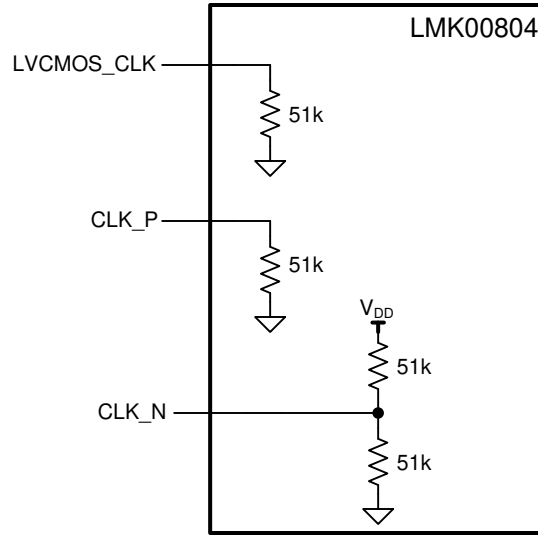

图 12. Clock Input Components
- **CLK_P/CLK_N Inputs:** See 图 12 for the internal connections. When using a single-ended input, take note of the internal pullup and pulldown to make sure the unused input is properly biased. To interface a single-ended input to the CLK_P/CLK_N input, the configuration shown in 图 14 is recommended.
- **LVC MOS_CLK Input:** See 图 12 for the internal connection. The internal pulldown (PD) resistor ensures a low state when this input is left floating.